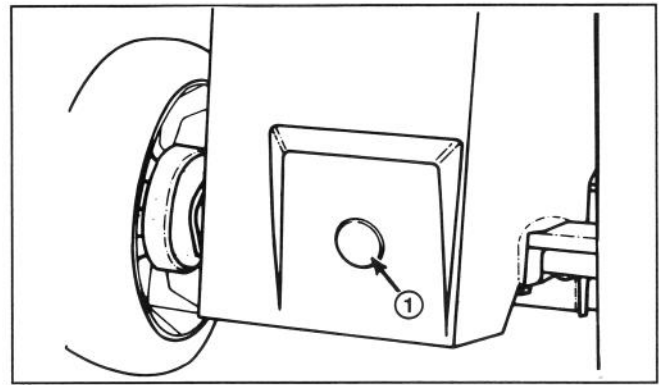

Figure 27
3. Set mower in highest height-of-cut setting (E).
4. CHECKING GEAR OIL LEVEL—Remove plastic access hole plug from rear of mower (Fig. 27).